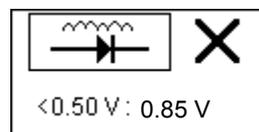

Fig. 54
16. If the AC ripple voltage is more than 0.5V then it will display (Fig. 54 ) as below: